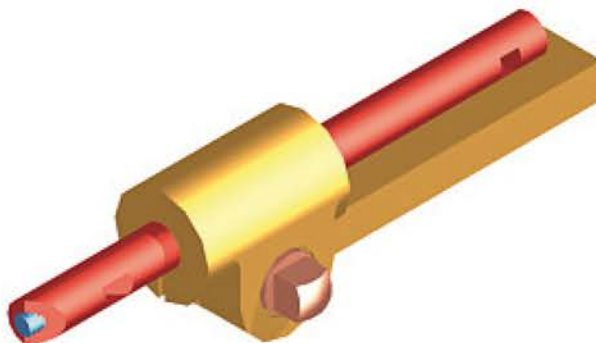

Fig. 16.57 Exercise 1
1. A rendering of an assembled lathe tool holder is shown in Fig. 16.57. The rendering includes different materials for each part of the assembly.